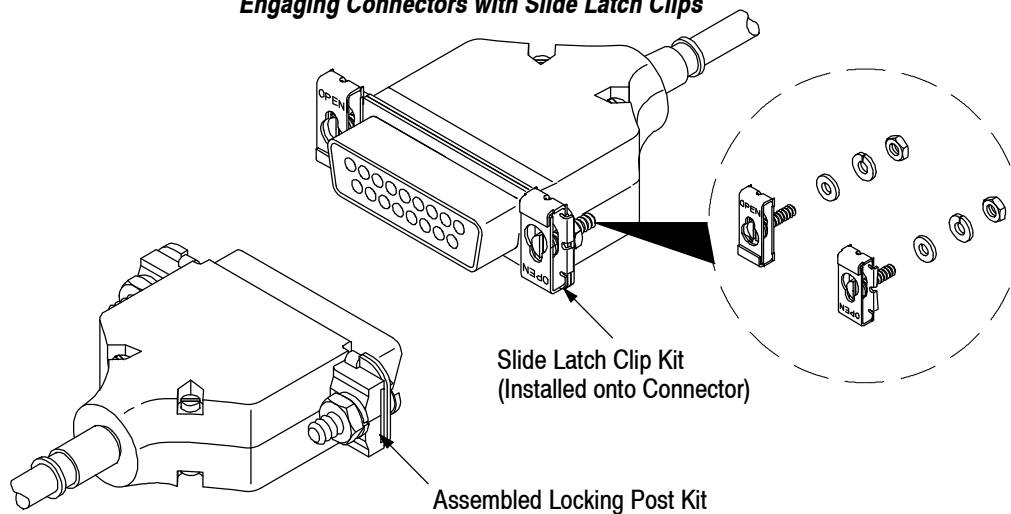

Figure 7
4.2. With Slide Latch Clips (See Figure 7)
NOTE *For proper alignment, the "tongues" of the slide latch clip must cover the edge of the connector flange. See Figure 7.*